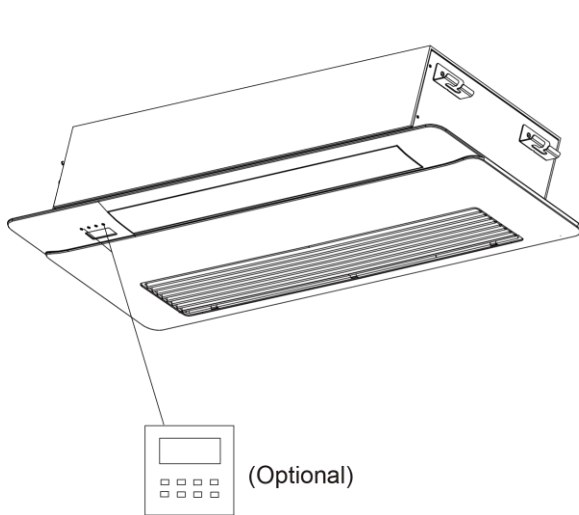
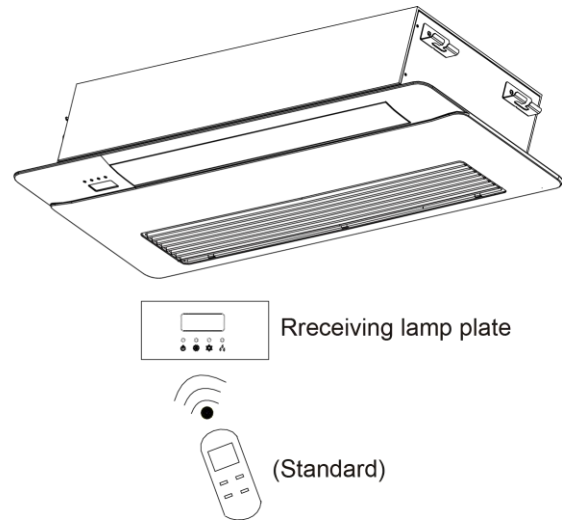

Fig. 5.4.1
Fig. 5.4.2
- 1) Wired controller (standard) is shown as Fig.5.4.1, wireless controller (optional) is shown as Fig.5.4.2 signal receiver is provided with panel as standard accessory.